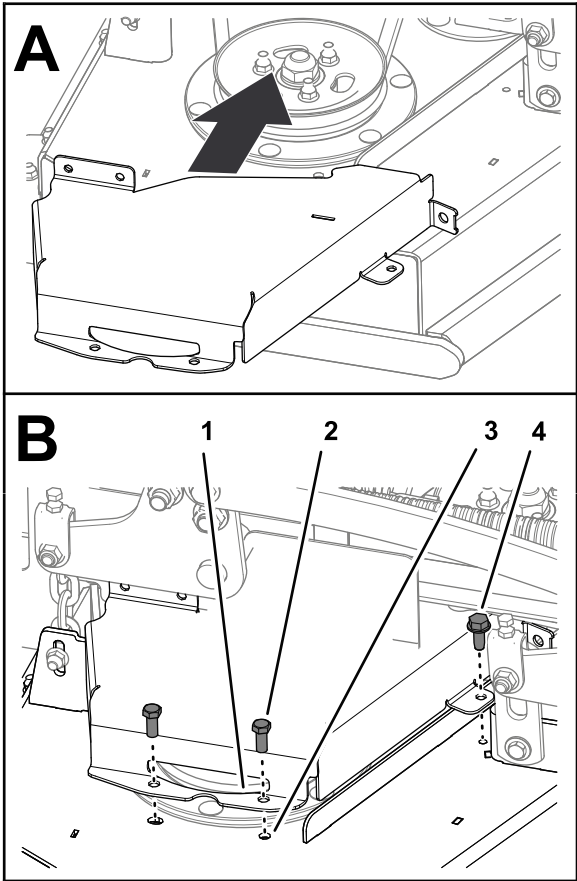

Figure 40
- 1. Assemble the right belt cover to the deck (Figure 40) with the 2 bolts that you removed in Removing the Left Belt Cover (page 28).